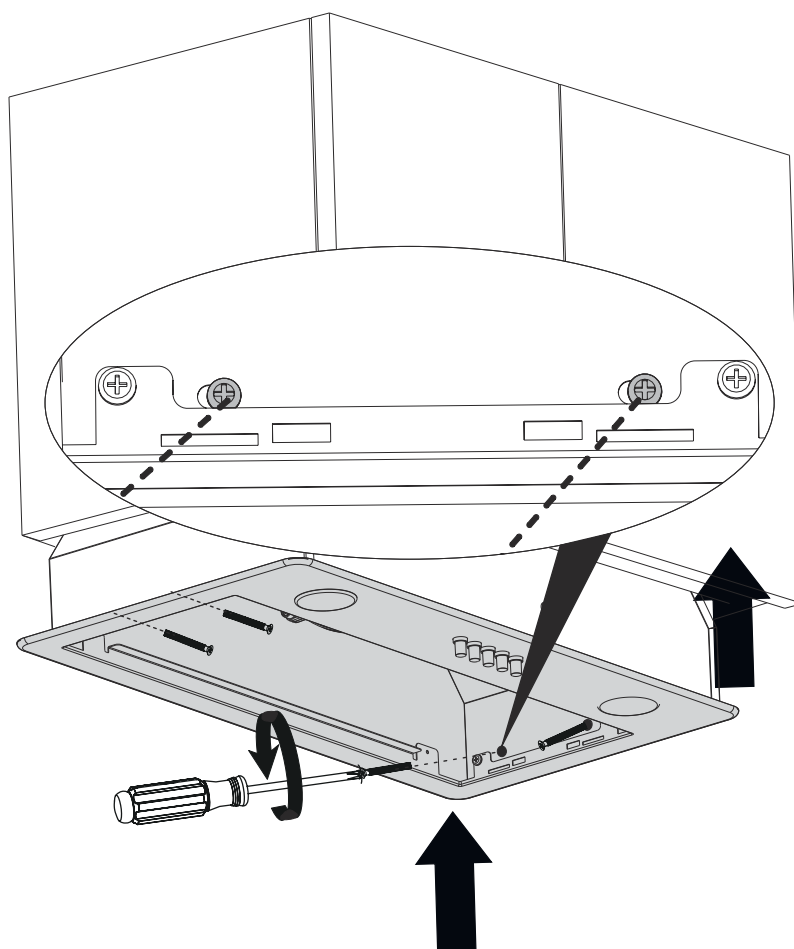

Fig. 20
9. After drilling the mounting holes with a $\varnothing 3$ mm drill, secure the product with 4 mounting screws. (Fig. 20).